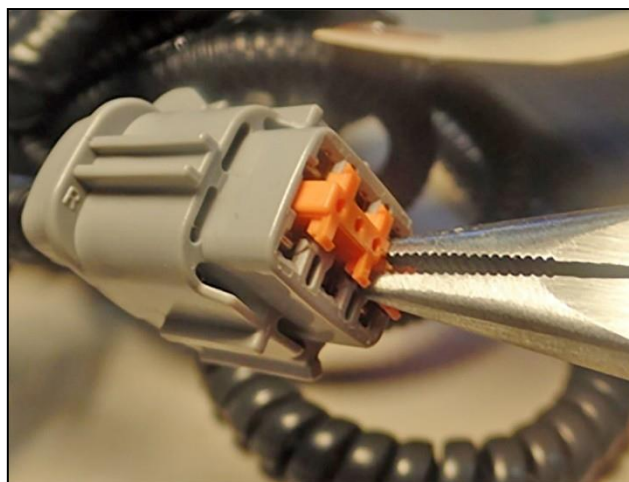

Figure 11
16. Install the retainer with a suitable pair of needle nose pliers or equivalent (Figure 11).